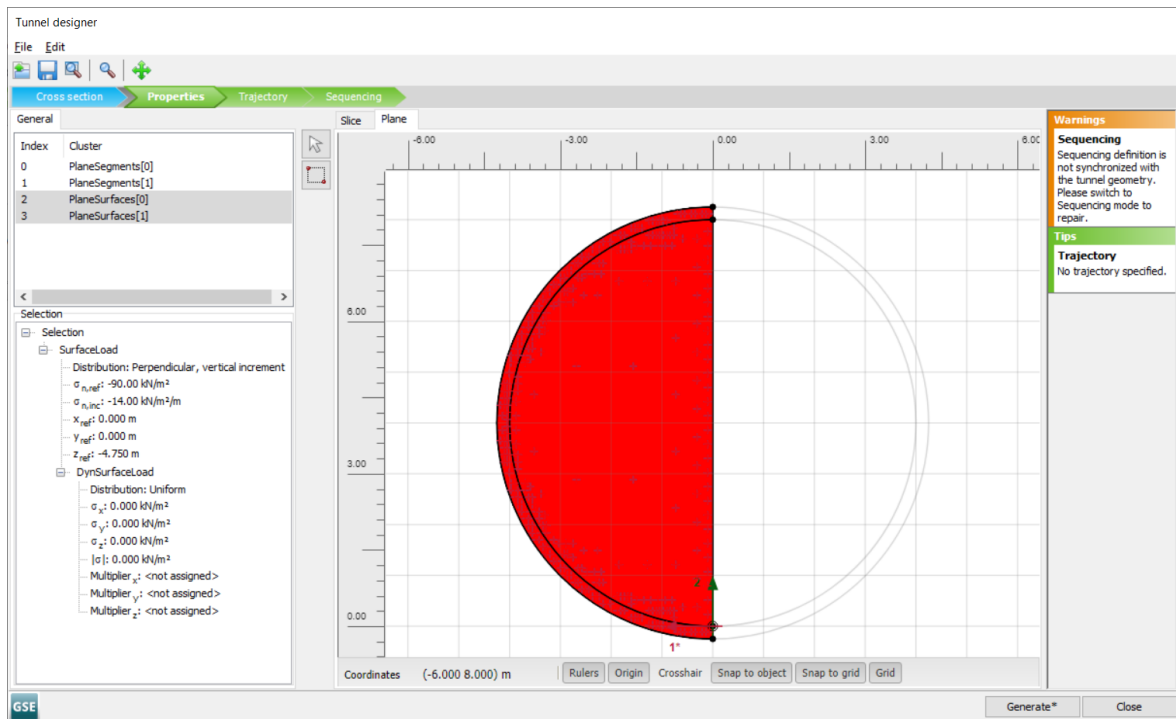

Figure 5-10: *Plane* tab Tunnel designer - Definition of TBM face pressure
- 2 Select both face surfaces (see Figure 5-10 \(p. 93\)), followed by pressing right click. Then from the appearing menu select **Create** > **Create surface load** to create a surface load on the TBM face.
- 4 As shown in Figure 5-10 \(p. 93\) set: